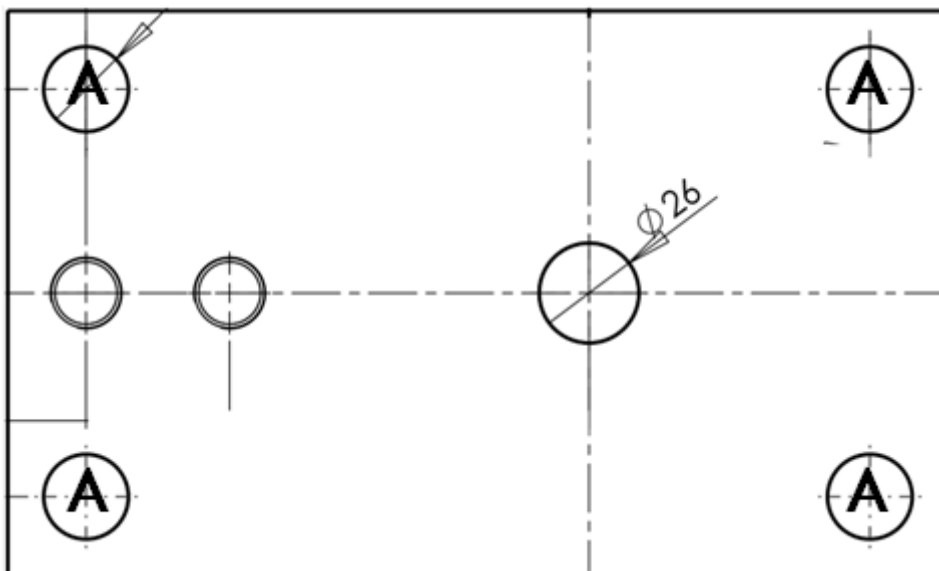

Figure 15: RSLC-10 Plate Dimensions
1. Figure 15 illustrates the RSLC-10 plate. Drill four holes into the concrete base as indicated (A).